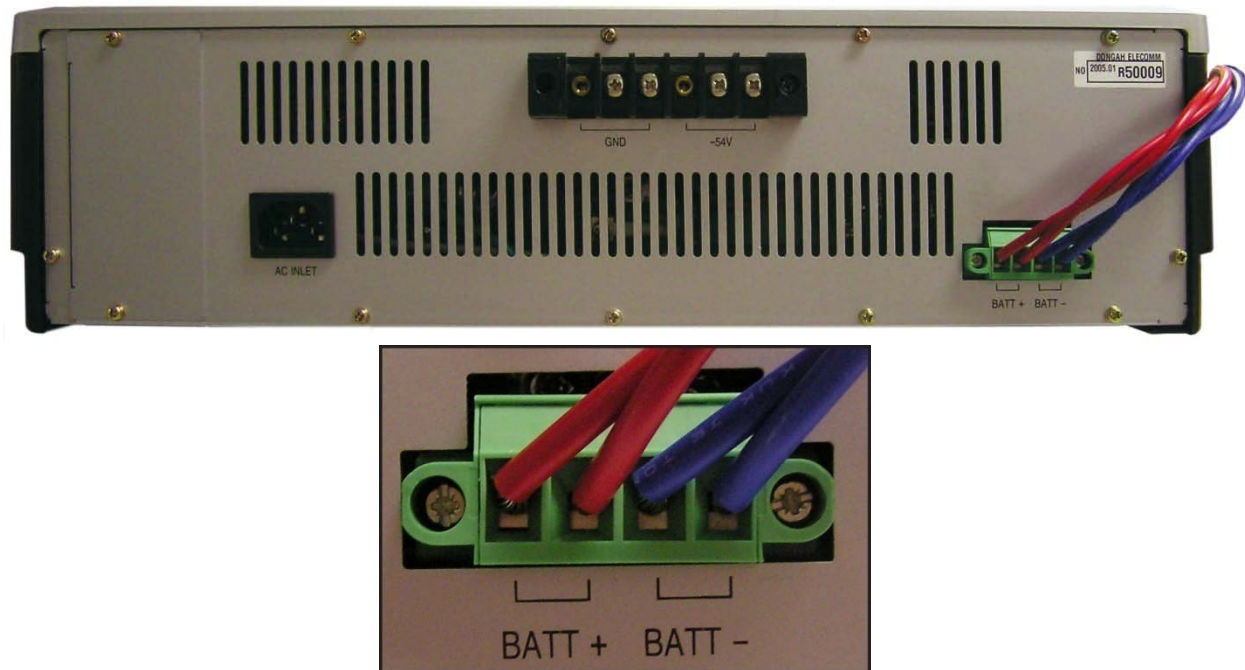

Figure 5.12 Connecting an External Battery
- 2) Connect the green connector into the battery connection port of the OfficeServ 7150. The connector is keyed so you can only insert it in one way. Press it in until it is pushed in all the way (see Figure 5.12). At the other end of the battery cable, connect the red wire to the (+) positive terminal lug of your battery, and connect the blue wire to the (-) negative terminal lug of your battery.